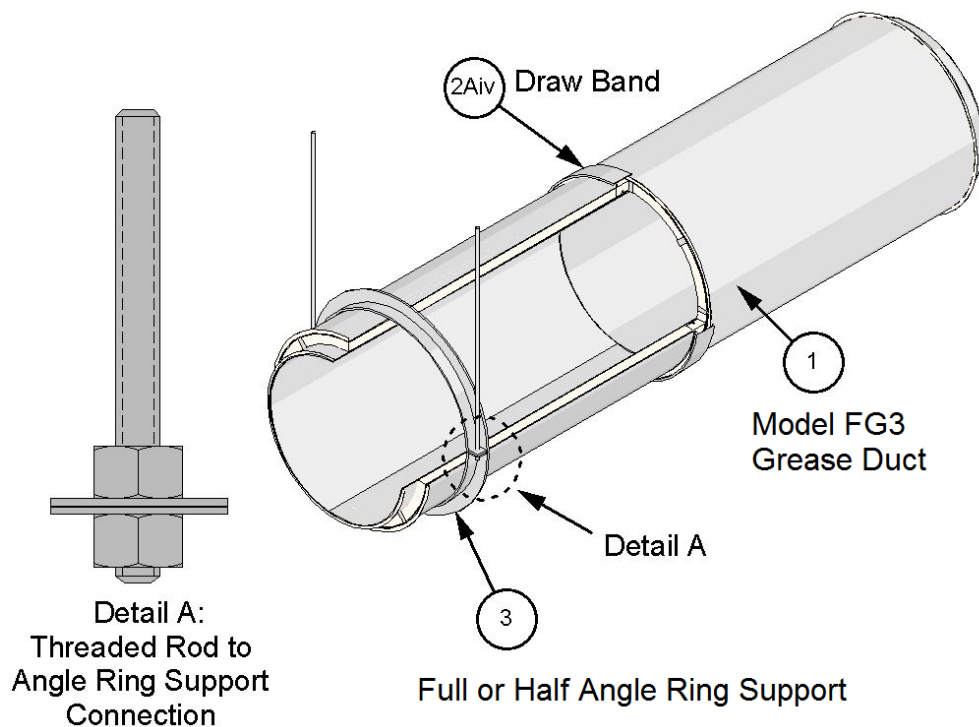

Figure 1. Model FG3
PRE-FABRICATED GREASE DUCT: Reference Figure 1. Install grease ducts in compliance with the requirements of NFPA 96 and the National Building Code of Canada (NBCC), as applicable.
- A. **HORIZONTAL SUPPORTS** – Support the Pre-Fabricated Grease Duct (Item 1) using supplied steel, Full Ring (Part No. FR) supports, or supplied steel, Half Ring (Part No. HR) supports (see Figure 1) and two min. 5/8 in. diameter threaded steel rods fastened with nuts and washers (see Figure 1, Detail A). Use min. 1-1/2 in. x 1-1/2 in. x 1/8 in. angle ring for up to nominal 8 in. ID Pre-Fabricated Grease Duct (Item 1); min. 1-1/2 in. x 1-1/2 in. x 3/16 in. angle ring for up to nominal 18 in. ID Pre-Fabricated Grease Duct (Item 1); and min. 2 in. x 2 in. x 3/16 in. angle ring for up to nominal 24 in. ID Pre-Fabricated Grease Duct (Item 1). Connect the threaded steel rods to the bottom of the floor assembly using an attachment method determined by the responsible project structural engineer, as appropriate, to support the load of the Pre-Fabricated Grease Duct (Item 1) under a fire load equivalent to CAN/ULC S101 time-temperature curve for a 2 hour period, and accounting for any other applicable load considerations. Place one threaded steel rod on each side of the Pre-Fabricated Grease Duct (Item 1) and fasten to the full angle ring support. Space horizontal supports a max. of 12 ft. on center (oc).